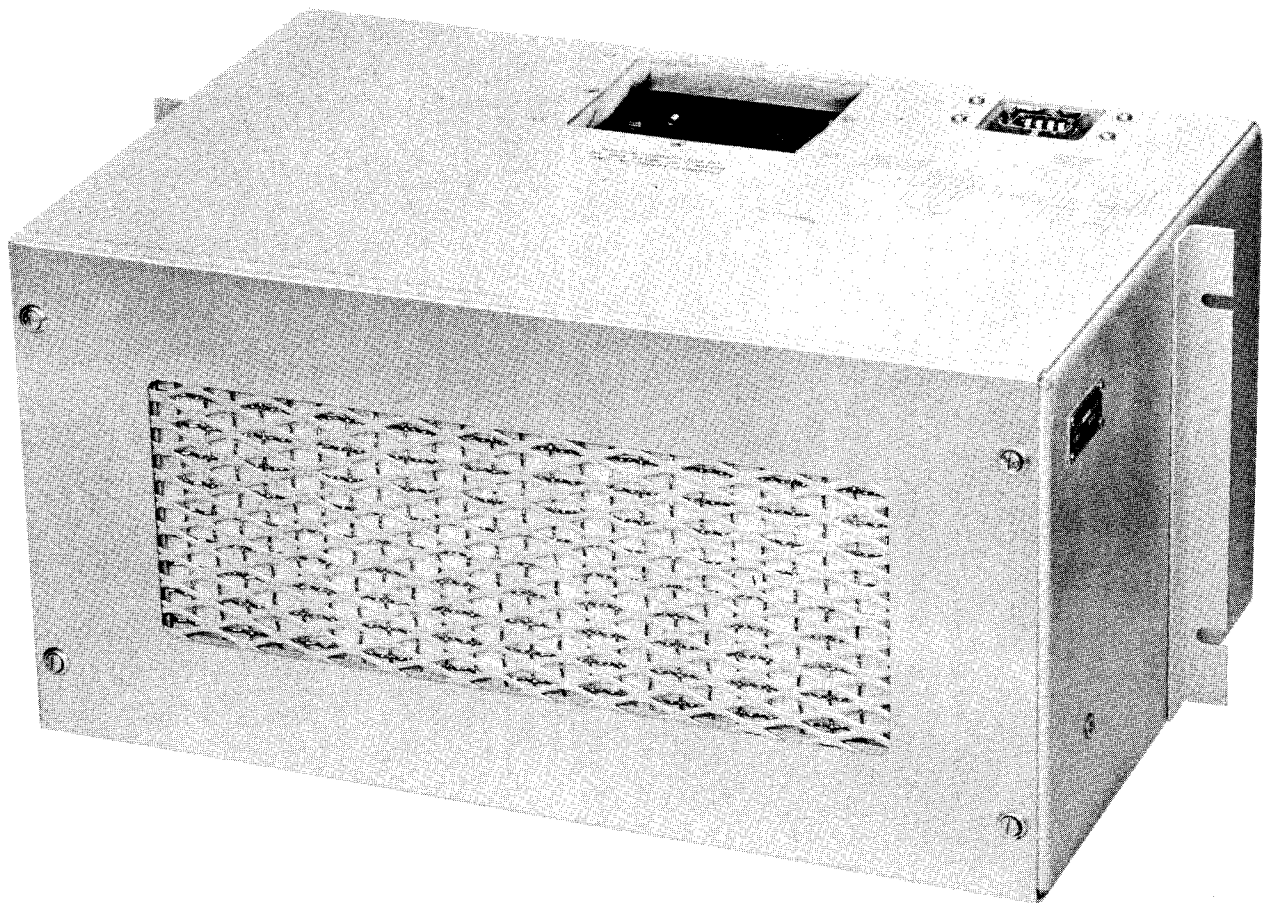

Figure 1-11. Electronic Equipment Air Cooler HD-347/U
j. ELECTRONIC EQUIPMENT AIR COOLER HD-347/U. - (Refer to figure 1-11.) The HD-347/U is of the centrifugal-type capable of delivering 125 cfm of air at 1.83 inches of water equivalent pressure. The prime mover in the unit is a 115/230-volt, single-phase induction motor. Air is supplied through an air filter located at the front. The unit contains